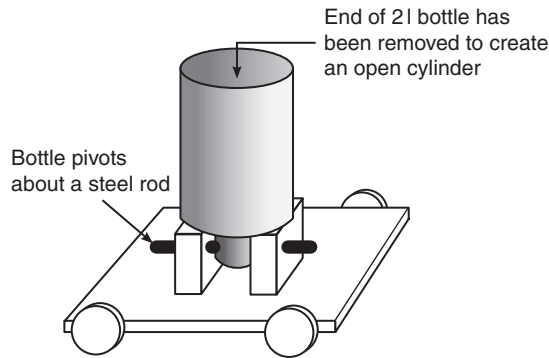
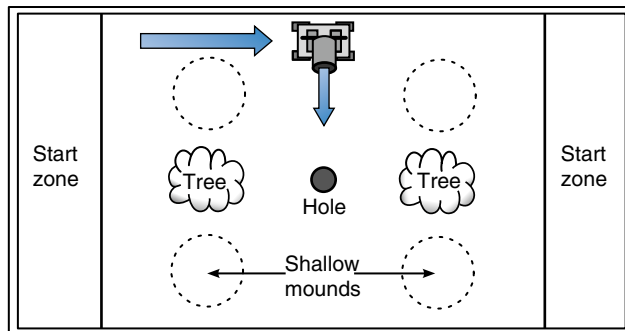

FIGURE 26.7
FIGURE 26.8
A concept for a robotic design competition named Dueling Duffers has been proposed and is shown in Fig. 26.7. The object of this head-to-head competition is to be the first to deposit up to 10 golf balls into a hole in the center of the tabletop playing field shown in Fig. 26.8.
The path of the vehicle and the direction in which the balls are dumped are indicated in Fig. 26.8. For this example, you are asked to (1) identify the main sources of risk and (2) propose experiments to address those sources of risk.
10. The Dueling Duffers concept shown in Fig. 26.7 requires the bottle to be tipped over far enough to spill out all the golf balls. How would you develop and experiment to determine how far the bottle needs to be tipped so that all the golf balls escape?
12. During the development of the Dueling Duffers concept shown in Fig. 26.7 it was decided to glue the bottle to the steel pivot rod and use a gear motor to turn the rod to tip the bottle and spill the golf balls. How would you develop and experiment to determine how much torque would be required by the motor?
15. Make a hand-drawn detailed sketch of the Dueling Duffers concept shown in Fig. 26.7. Choose your own dimensions for the components.